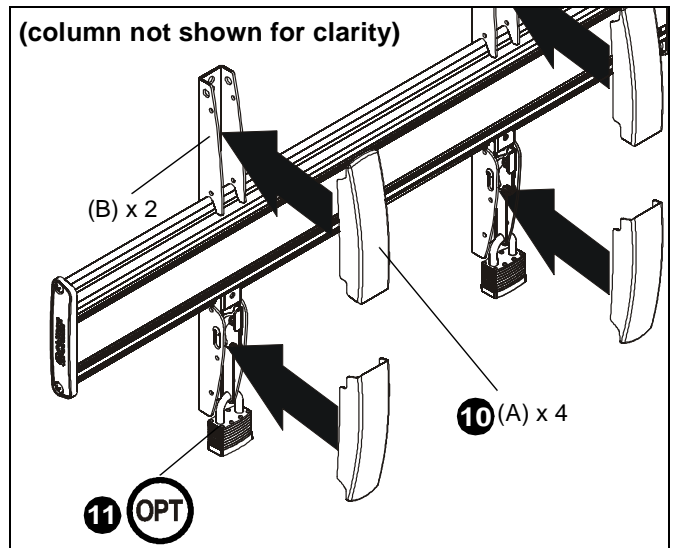

Figure 7
10. Snap four upright covers (A) onto uprights. (See Figure 7)
11. (Optional) Use padlocks (not provided) to secure uprights to head assembly. (See Figure 7)